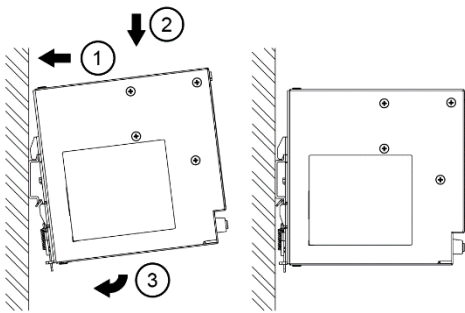

Fig. 8.1 Mounting
1. Tilt the unit upwards and insert it onto the DIN rail. Snap on the DIN rail as shown in Fig. 8.1.